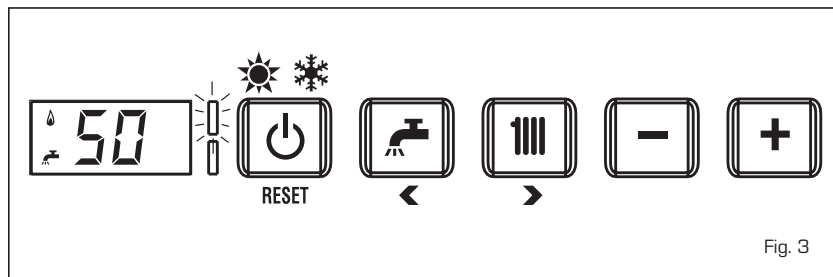

Fig. 3
1.3.4 Regulation D.H.W. temperature (fig. 3)